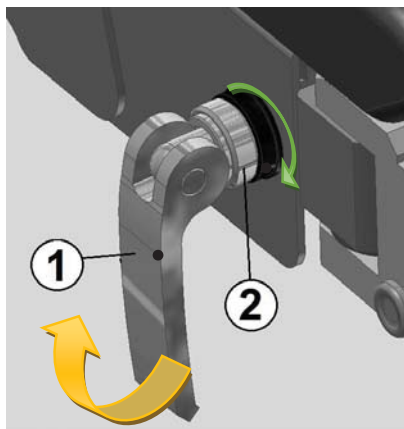

Fig.7. Adjusting the clamping force of the handle
In case of loosening of the handle clamp, adjust the clamping force using the handle nut – it will secure the lock (fig. 7, pos. 2).